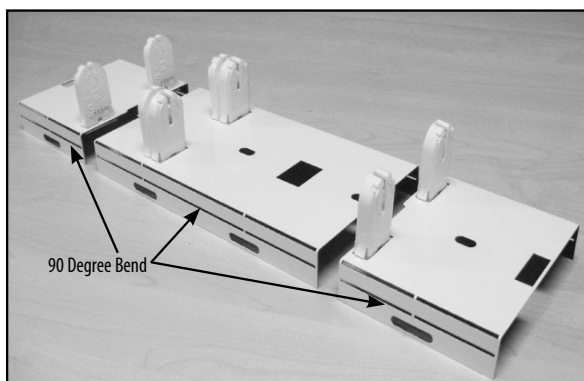

Figure 3. Bend the tabs on the Fixture Bracket Socket Plates 90 Degrees.
6. Figure 3 shows the tabs on all three sections of the socket plates bent approximately 90 degrees and configured for a 4.25” wide luminaire housing.